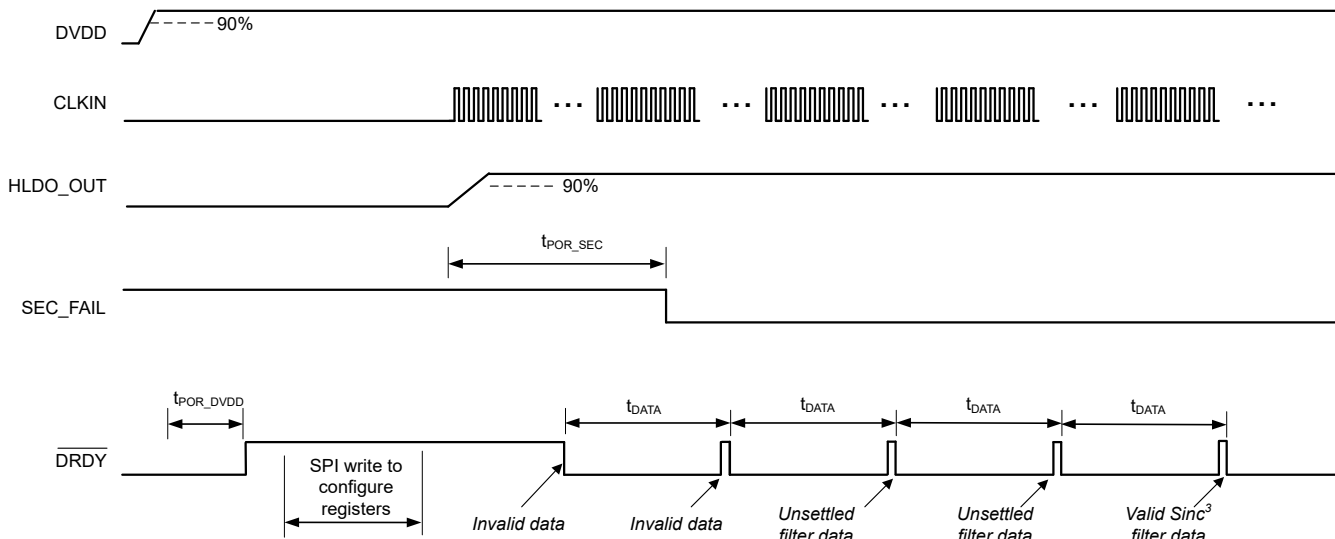
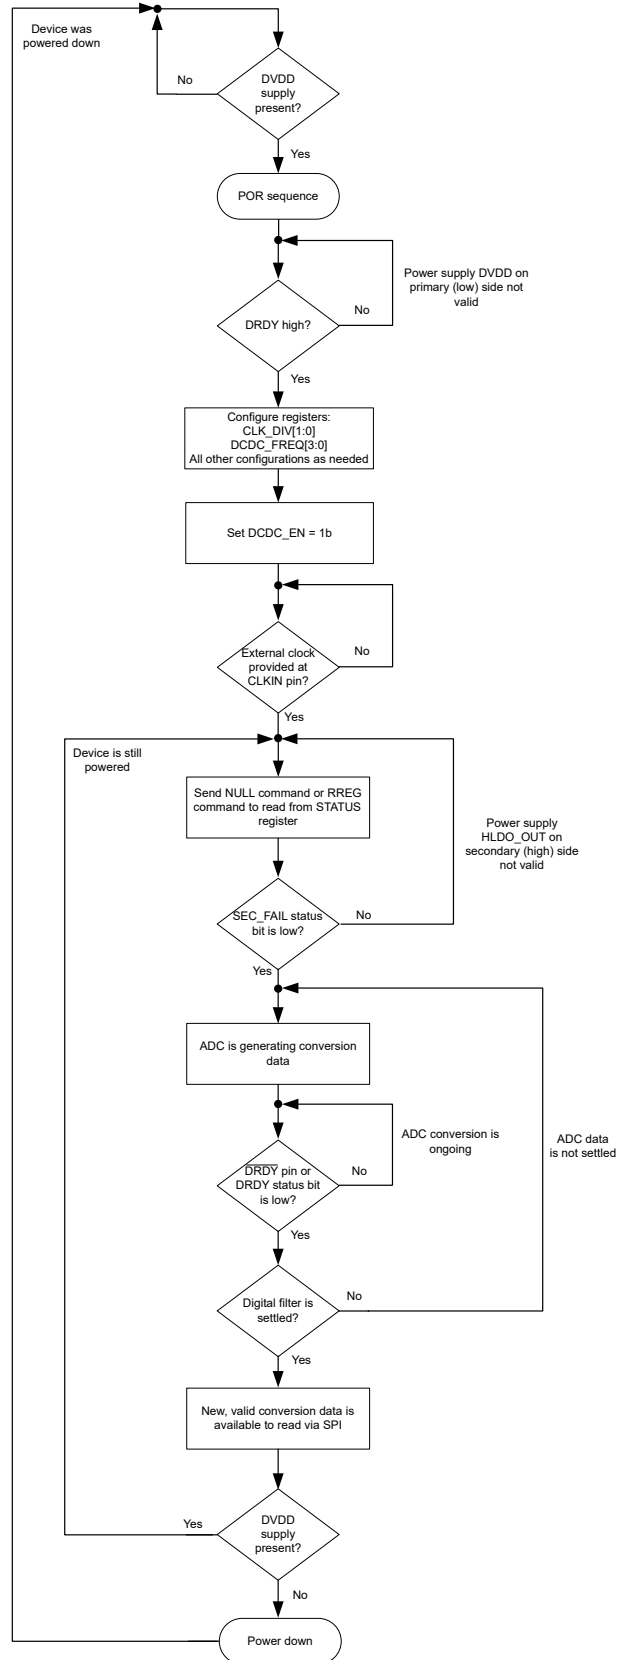

Figure 8-18. Start-Up Behavior at Power-Up and Settling Times, OSR = 1024
Figure 8-19. Flow Diagram for Start-Up Procedure at Power-Up
A recommended procedure for powering up the AMC131M03-Q1 is described in this section. Figure 8-18 depicts a timing diagram for the device behavior when this recommended sequence is used. Figure 8-19 provides a flow diagram that displays the recommended sequence in a graphical form.
- The high-to-low transition of $\overline{\text{DRDY}}$ indicates that new conversion data are available. As given in Figure 8-18, ADC data are only valid if the SEC_FAIL reads 0b during the conversion period. The first two conversion results shown in Figure 8-18, represent invalid data.
- When the ADC generates valid data, the digital filter must settle, as described in the *SINC³ and SINC³ + SINC¹ Filter* section. Two subsequent conversion results illustrated in Figure 8-18 are unsettled (assuming OSR equals 1024), and the last conversion result shown provides valid and settled data.
In Figure 8-18, $t_{\text{POR_SEC}}$ is the time from enabling the DC/DC converter to the first falling edge of the SEC_FAIL bit, which indicates that the secondary power supply at the HLDO_OUT pin is stable. $t_{\text{POR_DVDD}}$ is the time from DVDD supply at 90% to $\overline{\text{DRDY}}$ first rising edge.